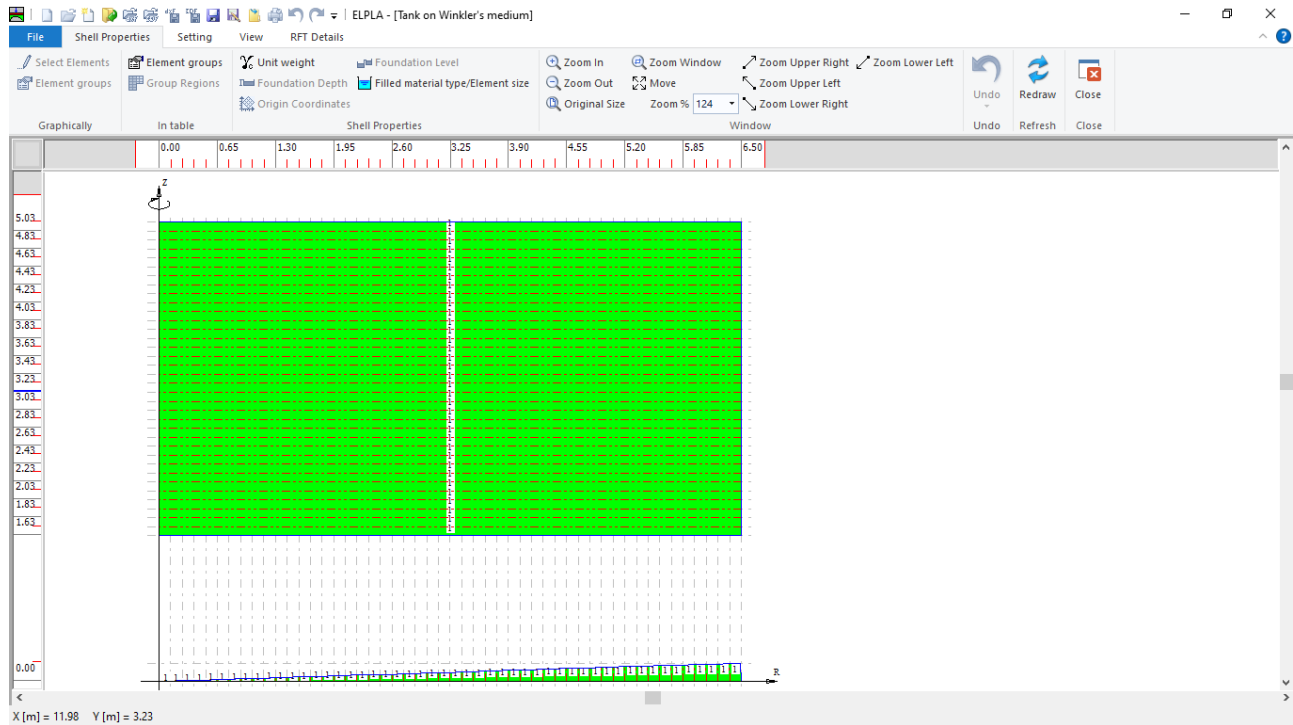
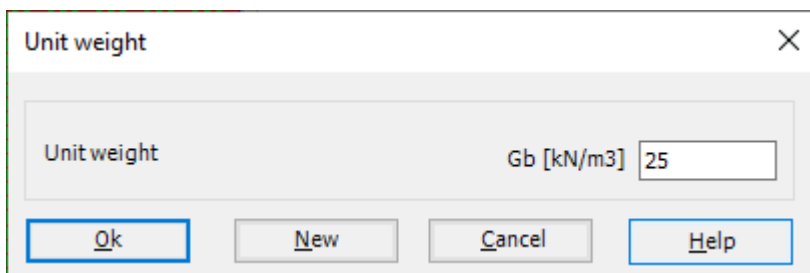

Figure 6.12 "Shell Properties" Window
Figure 6.14 "Unit weight" dialog box
To define the tank properties, choose "Shell Properties" command from "Data" Tab. The following window in Figure 6.12 appears with default shell properties. The data of shell properties for the current example, which are required to be defined, are element groups, unit weight of the tank, and filled material properties.
To enter the unit weight of the tank, choose "Unit weight" command from "Shell Properties" menu in Figure 6.12. The following dialog box in Figure 6.14 with a default unit weight of 25 [kN/m³] appears, click "OK" button.
To define the liquid properties of the shell, choose "Filled material type/Element size" command from "Shell Properties" menu in Figure 6.12. The following form in Figure 6.15 appears.
- Choose "Save" command from "File" menu in Figure 6.12 to save the shell properties
- Choose "Close" command from "File" menu in Figure 6.12 to close the "Shell properties" window and return to *ELPLA* main window